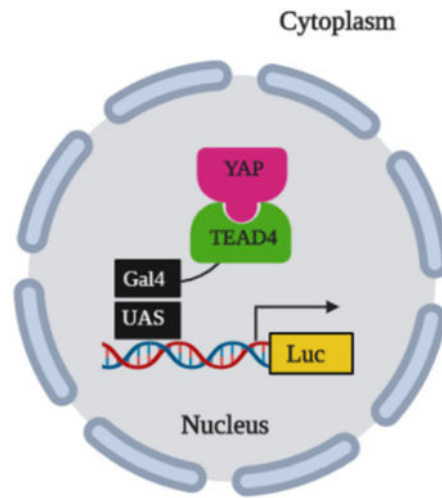

Figure 2. Overview of the GAL4(DBD)-TEAD4/YAP (Hippo) signaling pathway.
HEK293 cells were transfected with the Gal4(UAS)-Luc +/- YAP co-activator and Gal4(DBD)-TEAD4, as indicated. Following 24 hr incubation cells were processed to quantify luciferase activity per well (n = 4). Average relative light units (RLU) are plotted. Error-bars depict standard deviation (SD). Cell variation "C" represents the Reporter Cells provided in this kit, delivering constitutive expression of Luc that is dependent on the functional association between YAP and Gal4(DBD)-TEAD4. As such, INDIGO's reporter cells express the 'Hippo-Off' pathway (as depicted in *Figure 2*).